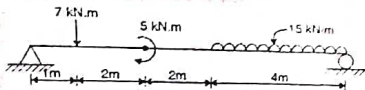

Figure 03
A) Draw shear force and bending moment diagrams for the beam loaded as shown in figure 03 (CO4) 6